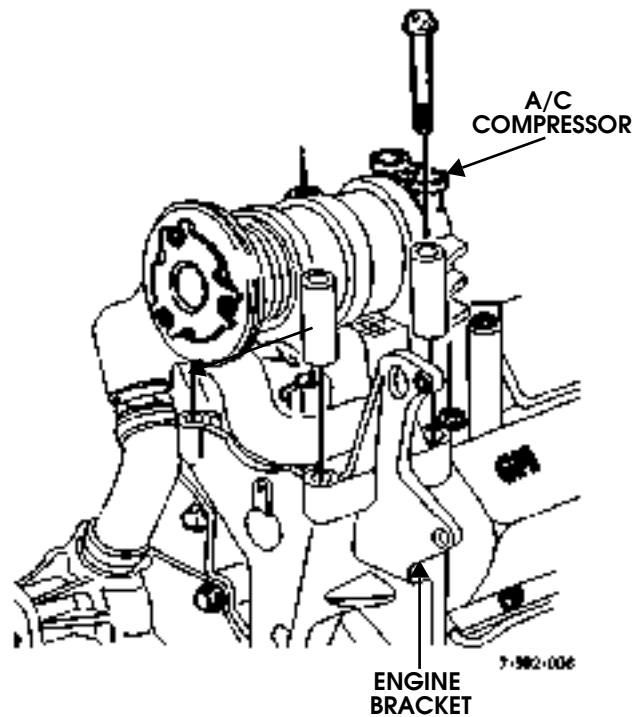

Figure 2-66: A/C Compressor Removal
2. Remove bolts/nuts attaching compressor to mounting bracket and remove compressor (Figure 2-66).